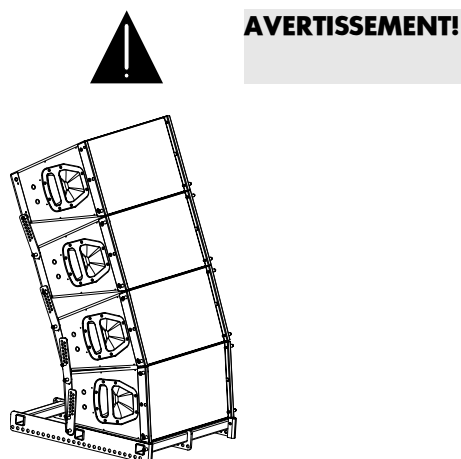

Fig. 20: Assembly of Q1 placed on the ground on the Z5159 Q Flying frame
- Turn the frame in the vertical plane as indicated in the illustration (Fig. 20).